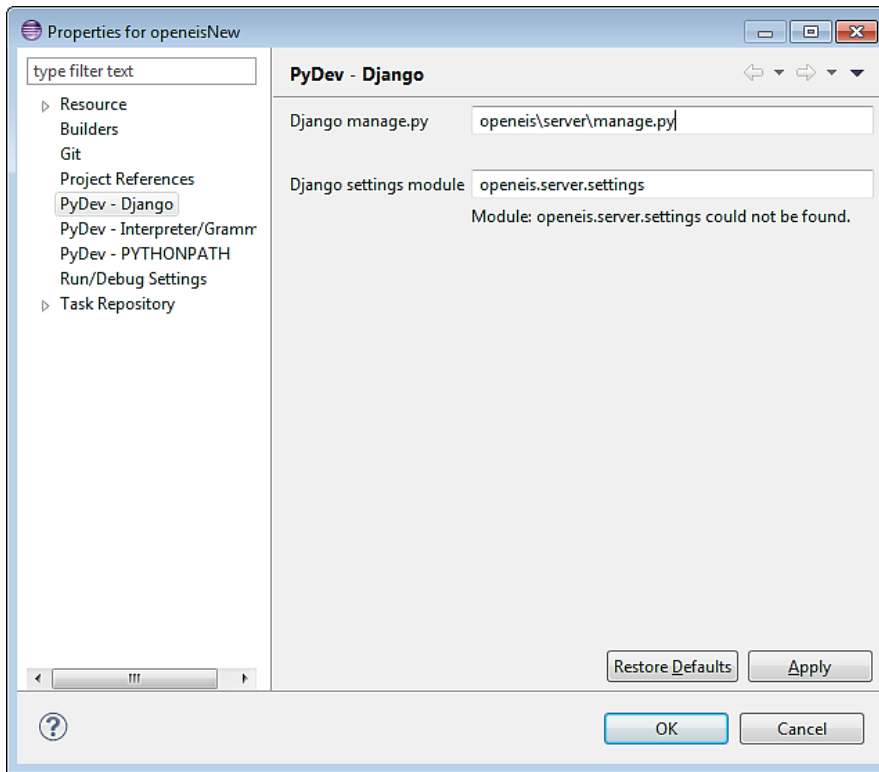

Figure 31: Configure Django Settings
- Select the PyDev – Django tab and configure the window, as show in Figure 31.